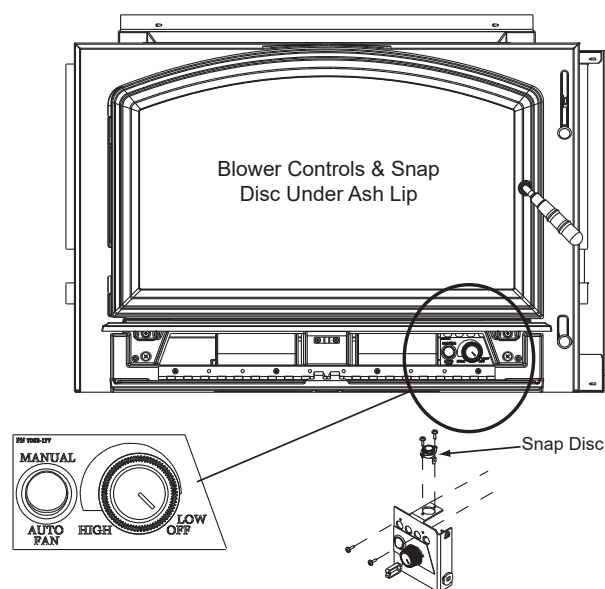

Figure 25.2 - Snap Disc Location
3. Locate the snap disc bracket assembly behind the blower controls on the right side under the ash lip (**Figure 25.2**).